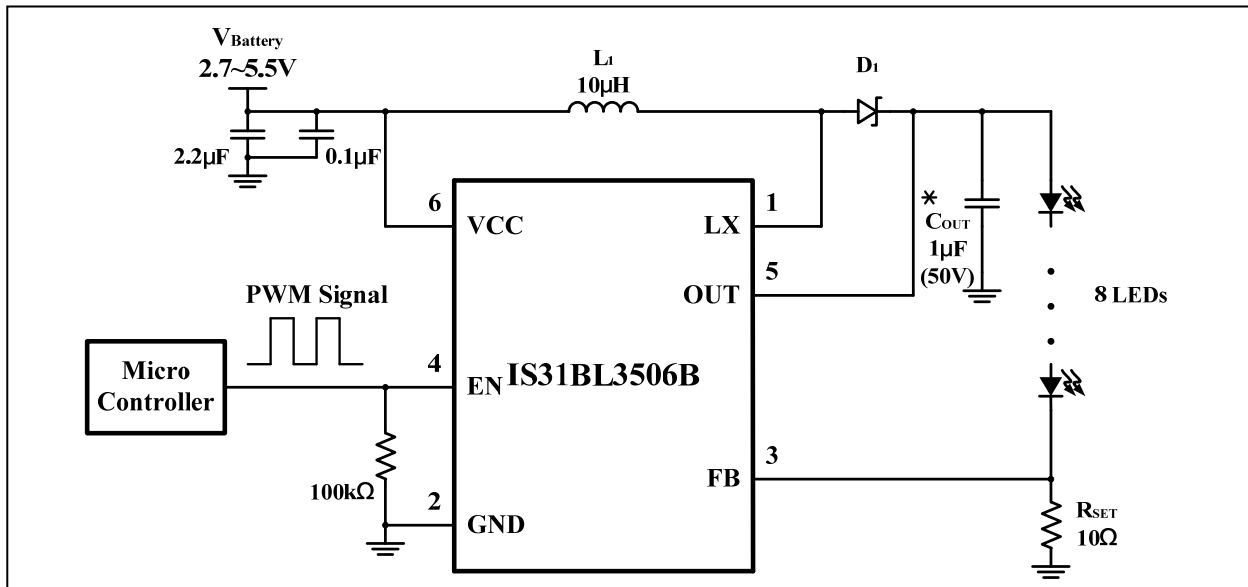

Figure 1 Constant Current White LED Driver Using PWM At The EN Pin To Control Intensity
When the IS31BL3506B is used for LED driving applications (Figure 1), the LED current flows through the external feedback resistor R_{SET} to regulate the LED current. The internal feedback regulation point is 0.2V. The maximum LED current may be calculated by the following equation, (1).
The EN pin of the IS31BL3506B can accept a PWM signal to implement LED dimming (Figure 1). LED current may be computed using the following equation, (2).